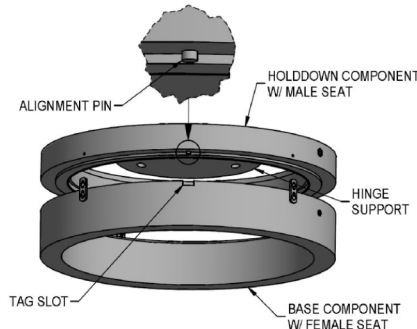

Figure 5 - Alignment pin fitting in tag slot. (ATLAS sizes 14" and larger")
- WARNING:** For ATLAS sizes 14" and larger, ensure that the alignment pin in the holddown fits into the tag slot of base (see Figure 5) and check the gap (see Figure 7). Fragmentation or leaking can occur if this feature is not aligned properly.